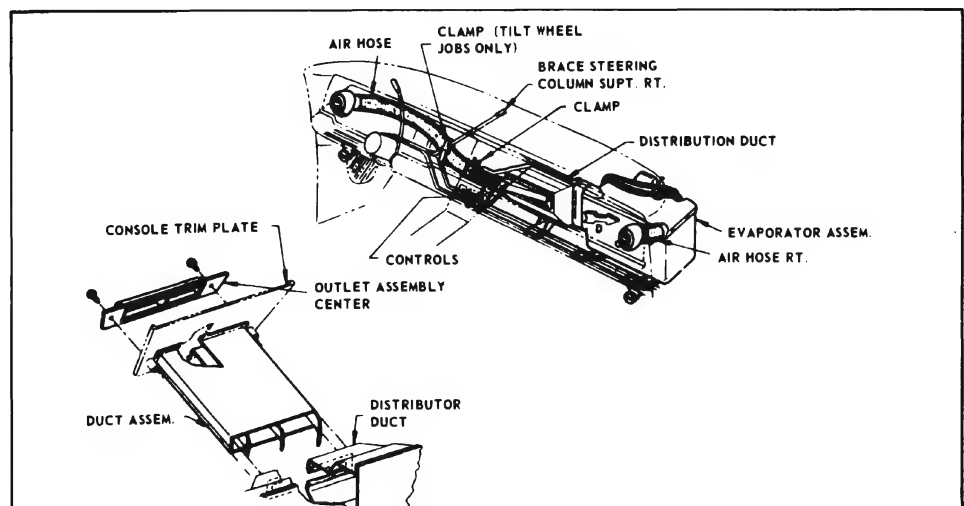

Figure 11-54—Air Conditioner Outlets - 4700 Series
9. **Air Outlets.** The air conditioner air outlets are entirely separate from the heater outlets and are located as shown in Figures 11-54 and 11-55.